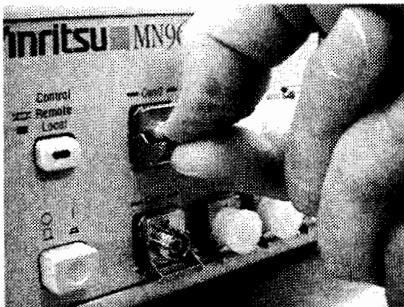
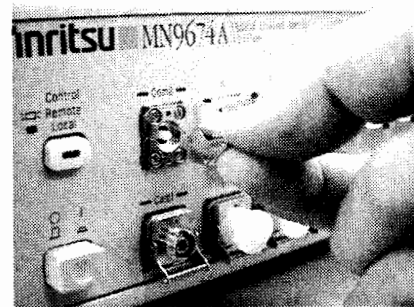

Figure 3-3
Figure 3-4
- 1) Raise the lever (Figure 3-3). After confirming that the latch is opened, gently pull out the connector towards you horizontally (Figure 3-4).